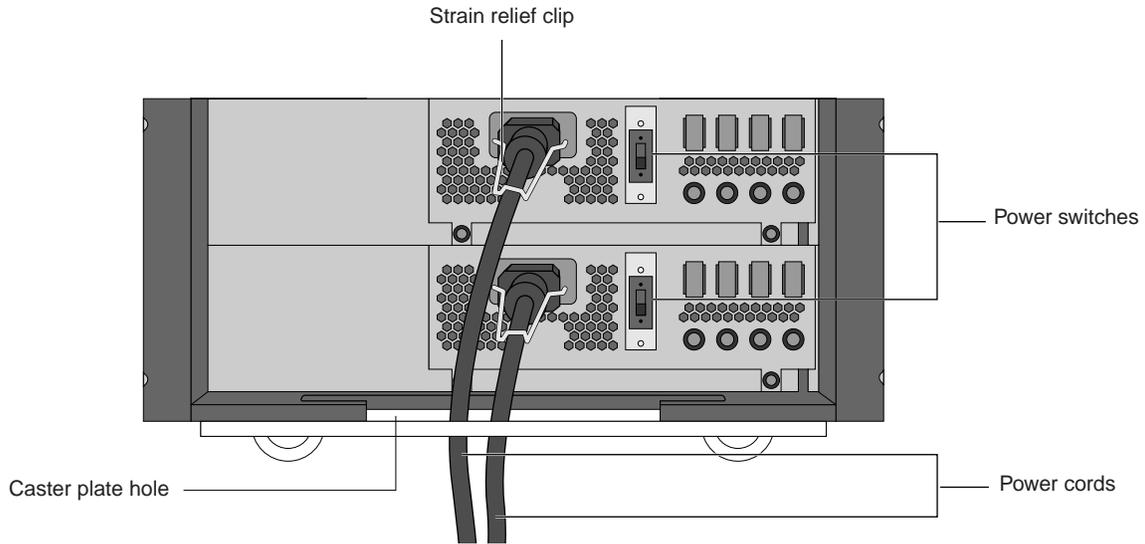

Figure 28. Bulk power supply chassis (back)
2. Turn off the main power to the storage subsystem (refer to Figure 28 for the location of the main power switch for each power shelf), and then turn off the main power to the base cabinet.
5. Release the strain relief clip and unplug the AC power cord on the back of the chassis (Figure 28).
8. Plug in the AC power cord and secure it with the strain relief clip (Figure 28 on page 32).